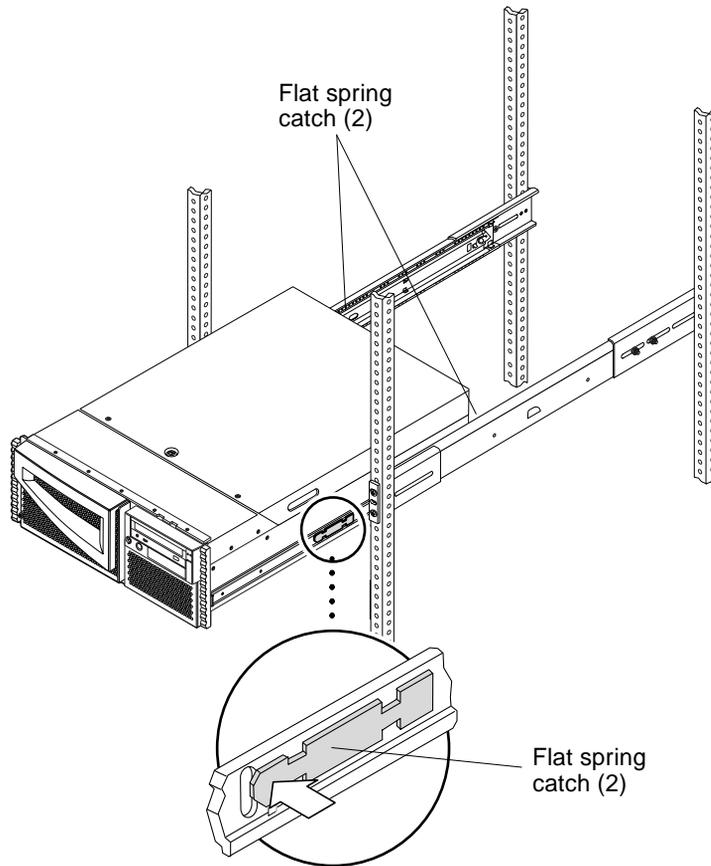

FIGURE 9-11 Locating the Flat Spring Catches
- 7. Locate the pair of flat spring catches located at each side of the file server or compute engine and at each rear corner of the file server or compute engine (FIGURE 9-11).**